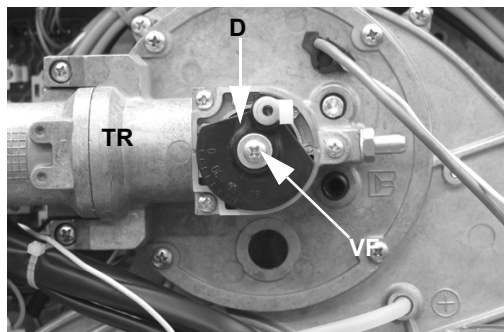

Fig. 19: New position
- 11 Rotate the disc **D** for 180 ° and then fit the screw **VF** (Fig. 19).